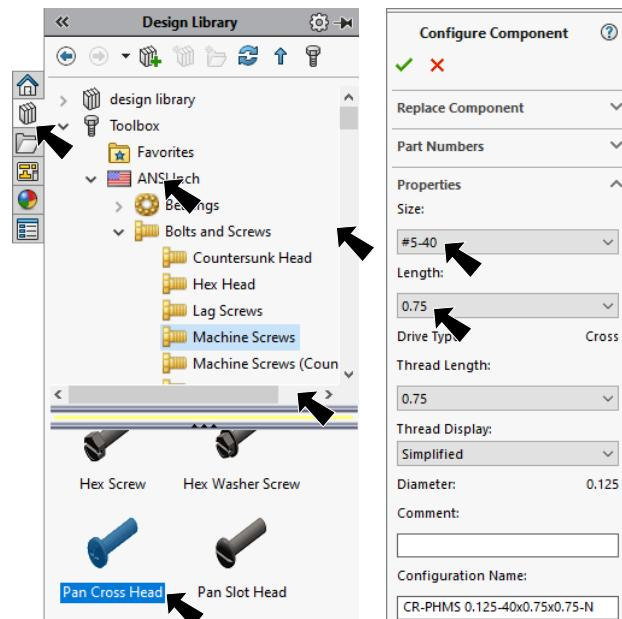
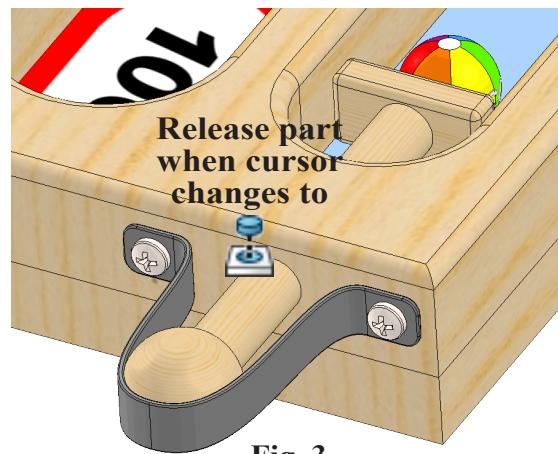

Fig. 2
Fig. 3
- Step 1. Click the **Design Library** tab  in the Task Pane, Fig. 2.
- Step 3. In the lower pane, click the **Pan Cross Head** screw, Fig. 2. Drag screw towards a hole in Elastic Strip. Move the **tip of your cursor to the edge of a hole**, Fig. 3. When the screw snaps into place and cursor changes to concentric and coincident mate , release the screw.
- Step 5. Add screw to other hole, Fig. 3.